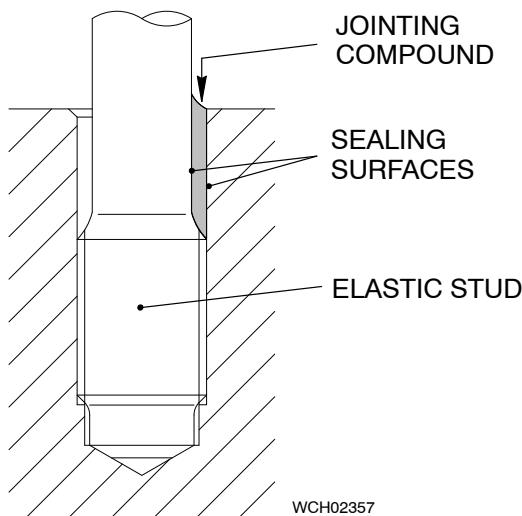

Fig. 3
- 10) For the elastic studs installed in the valve cage, cylinder liner and cylinder jacket fill the area around the elastic stud with jointing compound (see Fig. 3).